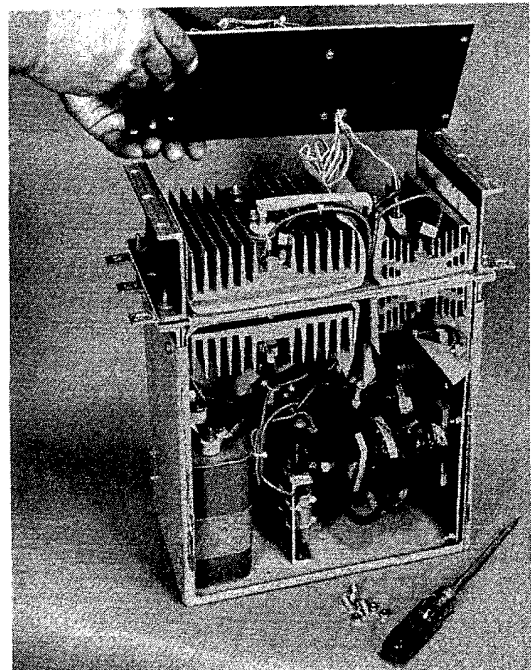

FIGURE 25
3. After locating the defective Press-Pak Main SCR cell (ISP and ISN) follow the instructions for Press-Pak Main SCR cells, 40-60 KVA, 230V AC units. See Figure 25.
4. After locating the defective stud mounted commutating SCR cell (CSP and CSN) follow the instructions for stud mounting SCR cells, 10-30 KVA, 230V AC or 460V AC units. See Figure 25.